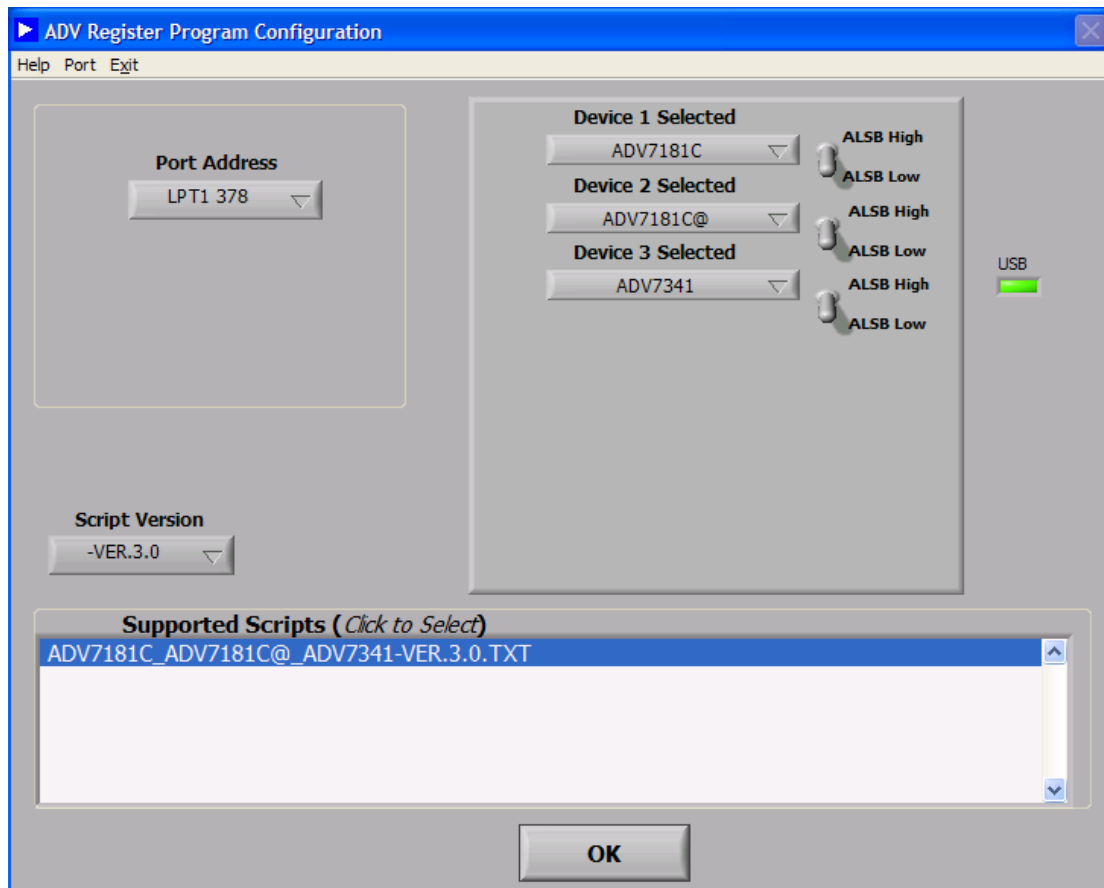

Figure 1. ADV Register Software Configuration
The ADV Register Program Configuration screen appears, as shown in Figure 1.
4. Ensure the options are set as shown in Figure 1, and click on the OK button. When the register control software starts, it firstly initializes all the selected devices and then loads the reset defaults for each device. I2C control and reset signals are connected to the evaluation board through the USB cable. This cable should be connected to the evaluation board before the application software is started.